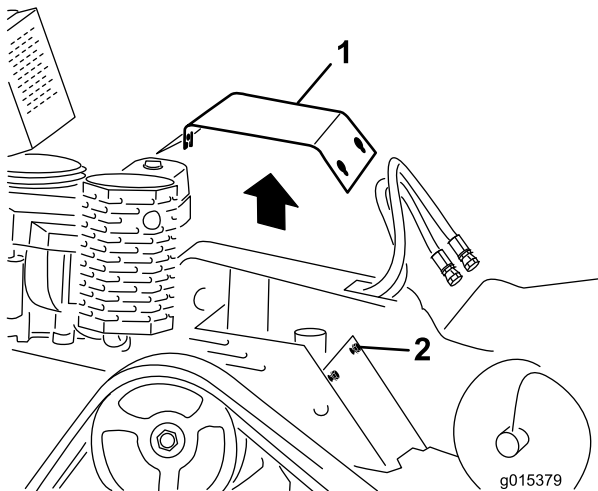

Figure 26
3. Loosen the three bolts securing the cover plate to the frame sequentially until the cover is loose (Figure 26).
2. Slide the cover plate into place and secure it with the three bolts you loosened previously (Figure 26).